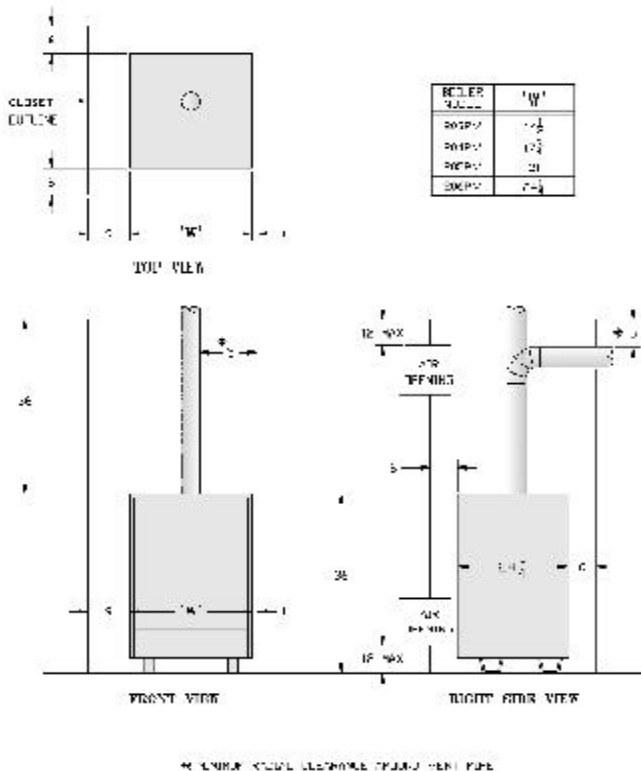

Figure 2: Minimum Clearances to Combustible Construction for Closet Installation
- D. Provide clearance** between boiler jacket and combustible material in accordance with local fire ordinance. See Figure 2 for minimum clearance from combustible material for closet installation. For alcove installation provide top clearance of 27 inches and right side clearance of 6 inches. Recommended service clearance is 24 inches from left side, right side and front. Service clearances may be reduced to minimum clearances to combustible materials.